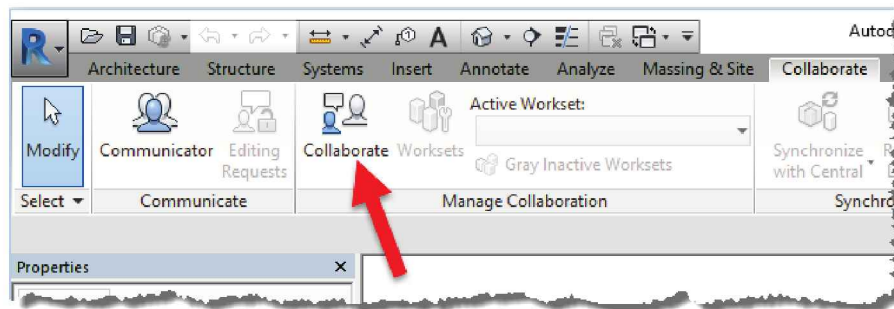

FIGURE 17-2.2 Worksharing tools on the Ribbon
The main Worksharing tools are conveniently located on the Status Bar (Figure 17-2.2). These same tools, plus a few others, are located on the Collaboration tab in the Ribbon. The average user can get by with just the Status Bar tools, but we have to start on the Ribbon.
- Click **Collaborate** on the Ribbon shown in Figure 17-2.2